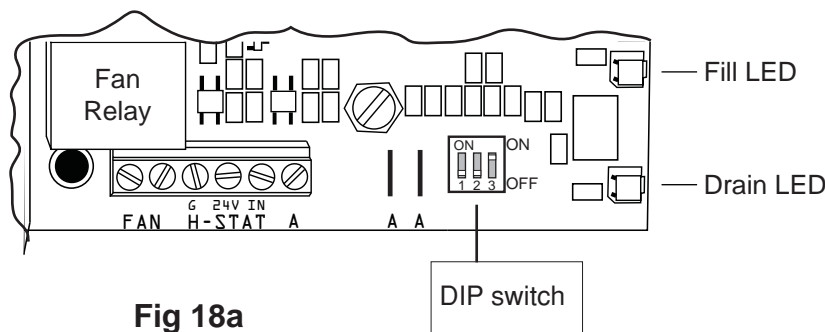

Fig 18a
18.5 Adjusting the DIP switches, located on the lower right corner of the circuit board (see Fig 18a), will change how the humidifier determines automatic tank flushes. The humidifier will completely drain and refill with fresh water after a set number of "refill cycles". Every time the unit replenishes the tank while producing steam is counted as one cycle. The table below shows how to set the DIP switches in order to make the unit flush the tank at different intervals. To keep deposits in the tank to a minimum, by default the tank will flush every 30 cycles which equals approximately 5 hours of operation.